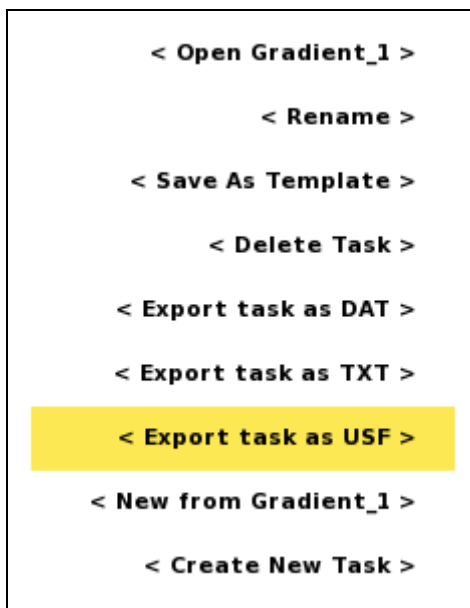

Figure 74. Task options menu
- Highlight <Export task as USF> (Figure 74)